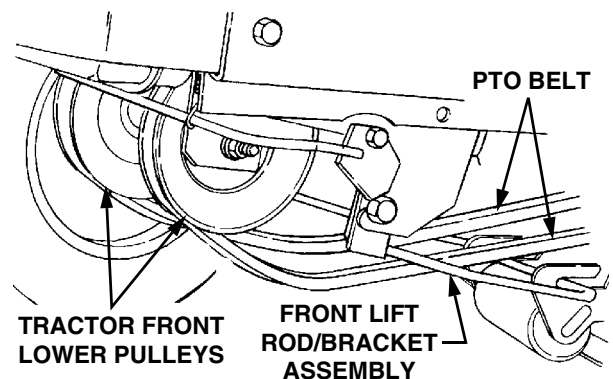

Figure 37
14. Twist the two sides of the PTO belt 1/4 turn inward to engage the narrow sides of the belt into the grooves of the two tractor front-lower pulleys (See Figure 37).